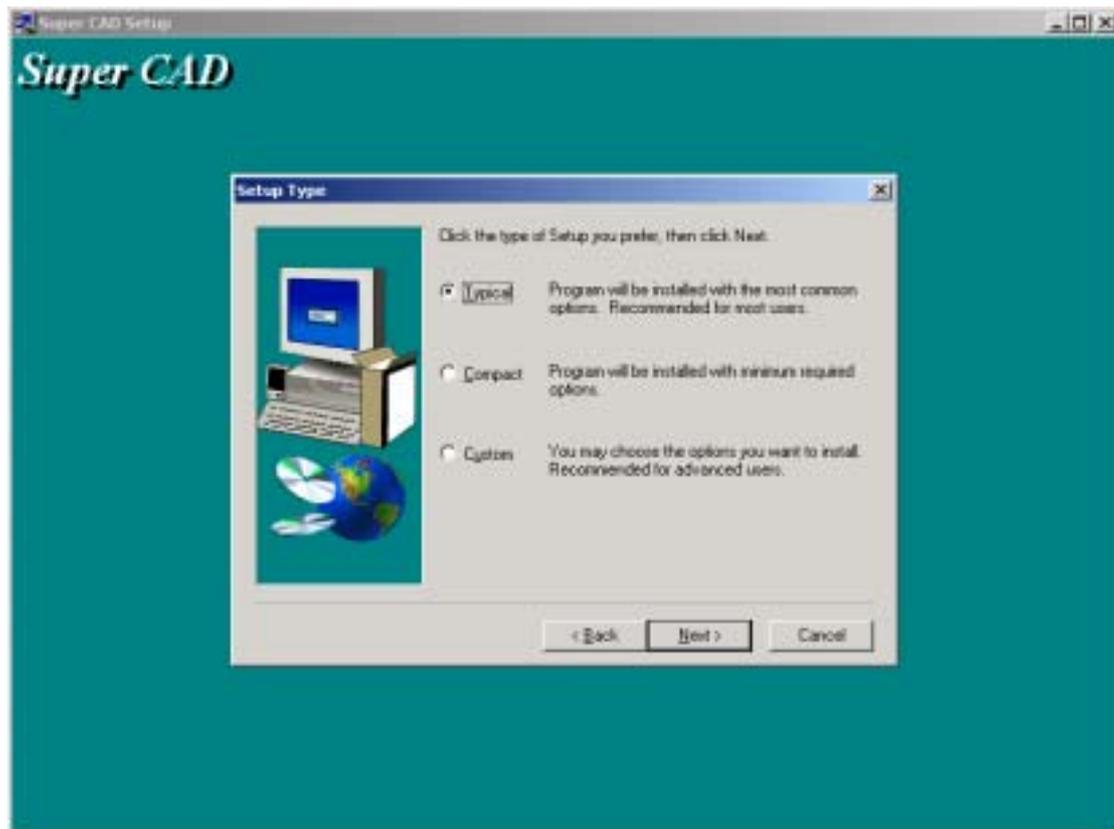

Fig. 1.5 Setup Type Window
- 5 . After setting the destination folder, click [Next] to enter the next step. Setup Type Window as shown in Fig. 1.5 will be displayed. Please select your desired installation type.